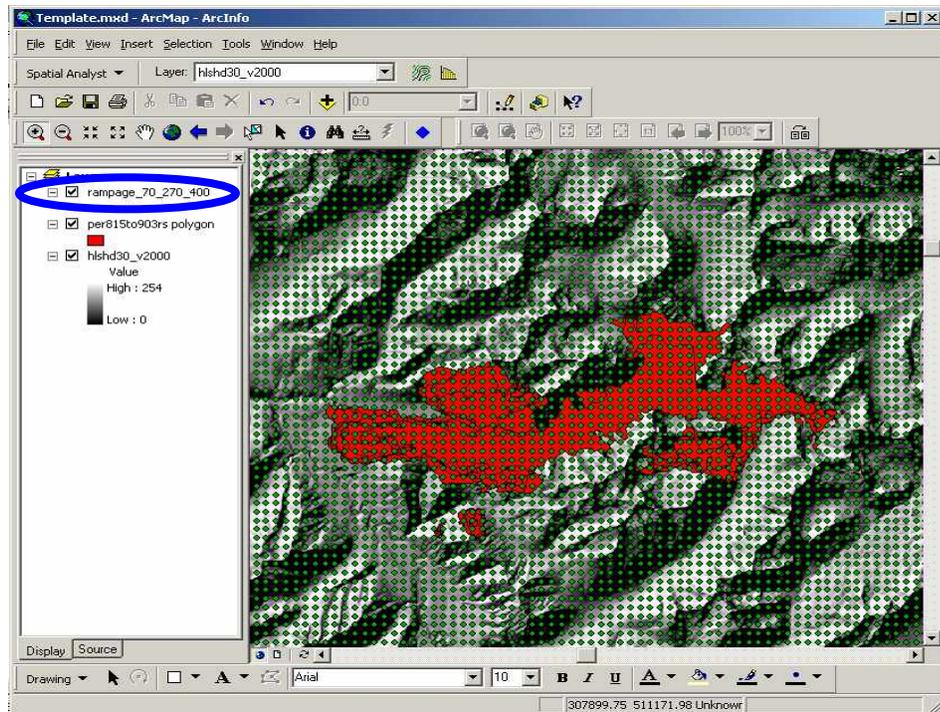

Figure 2. Example ArcMap project with Wind Wizard generated shapefile as displayed in ArcMap prior to scaling and rotation of the Wind Wizard generated vectors.
6. Load the ArcMap Wind Wizard shapefile for the fire of interest. The wind vector grid will appear on the coverage as individual points (Figure 2).